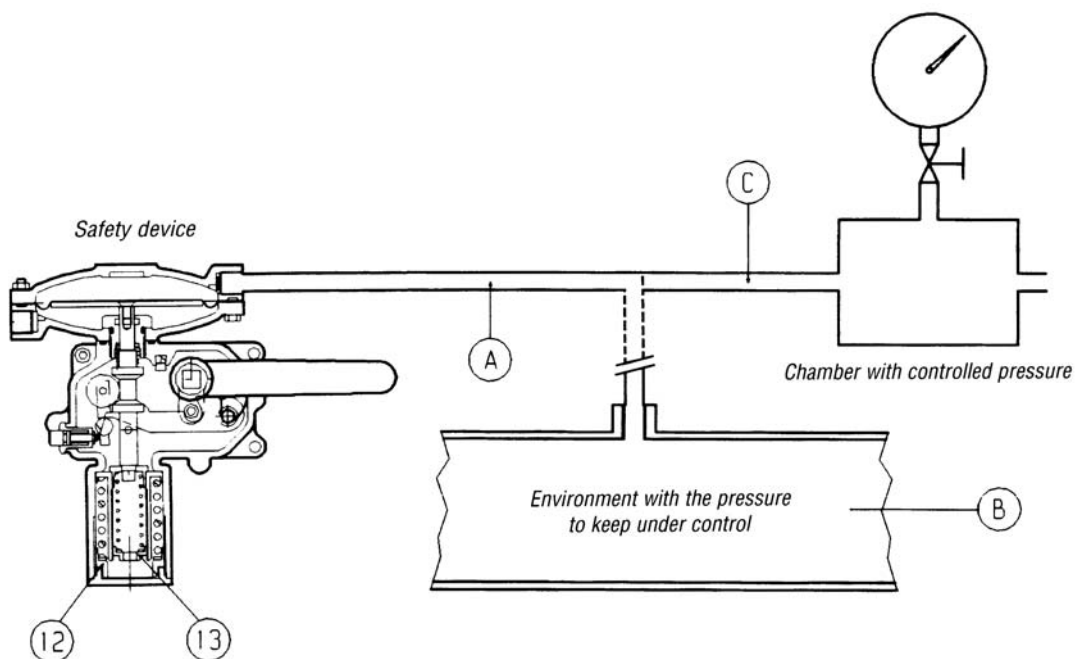

Fig. 10
B) On devices without the “push” valve (Fig. 10) we recommend connecting the control head separately to a controlled auxiliary pressure and repeating the operations described above.